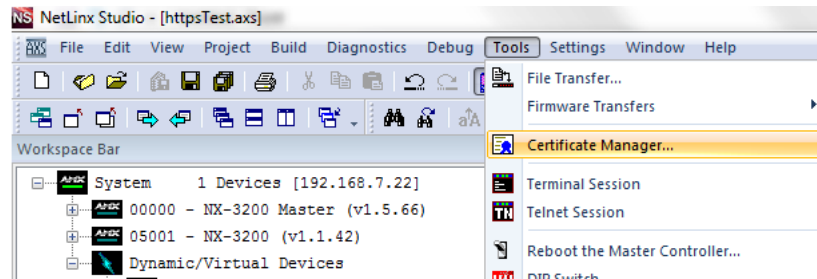

FIG. 473 NetLinx Studio
1. In NetLinx Studio connect to the NX Master and select **Certificate Manager** from the Tools Menu (FIG. 473):